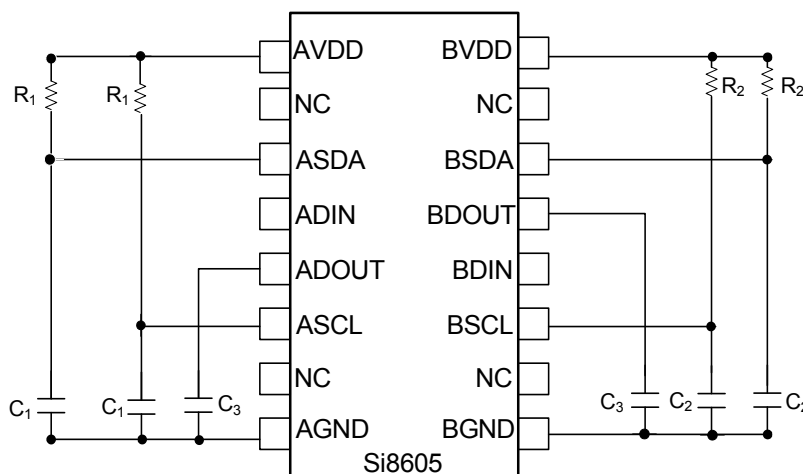
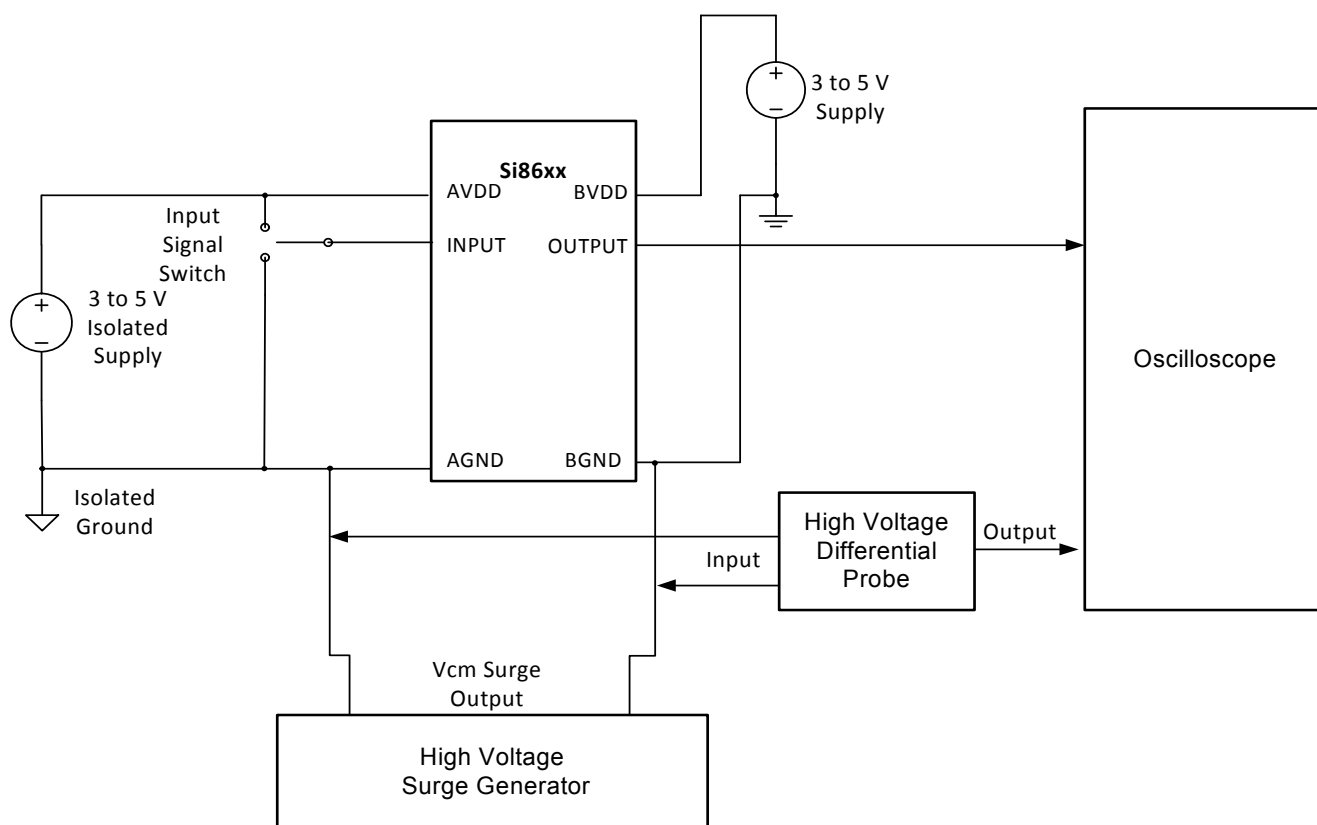

Figure 2. Simplified Timing Test Diagram
Figure 3. Common Mode Transient Immunity Test Circuit
3.0 V < VDD < 5.5 V. TA = -40 to +125 °C. Typical specs at 25 °C (See Figures 2 and 10 for test diagrams.)
Figure 2 depicts the timing test diagram; Figure 3 depicts the CMTI test diagram.